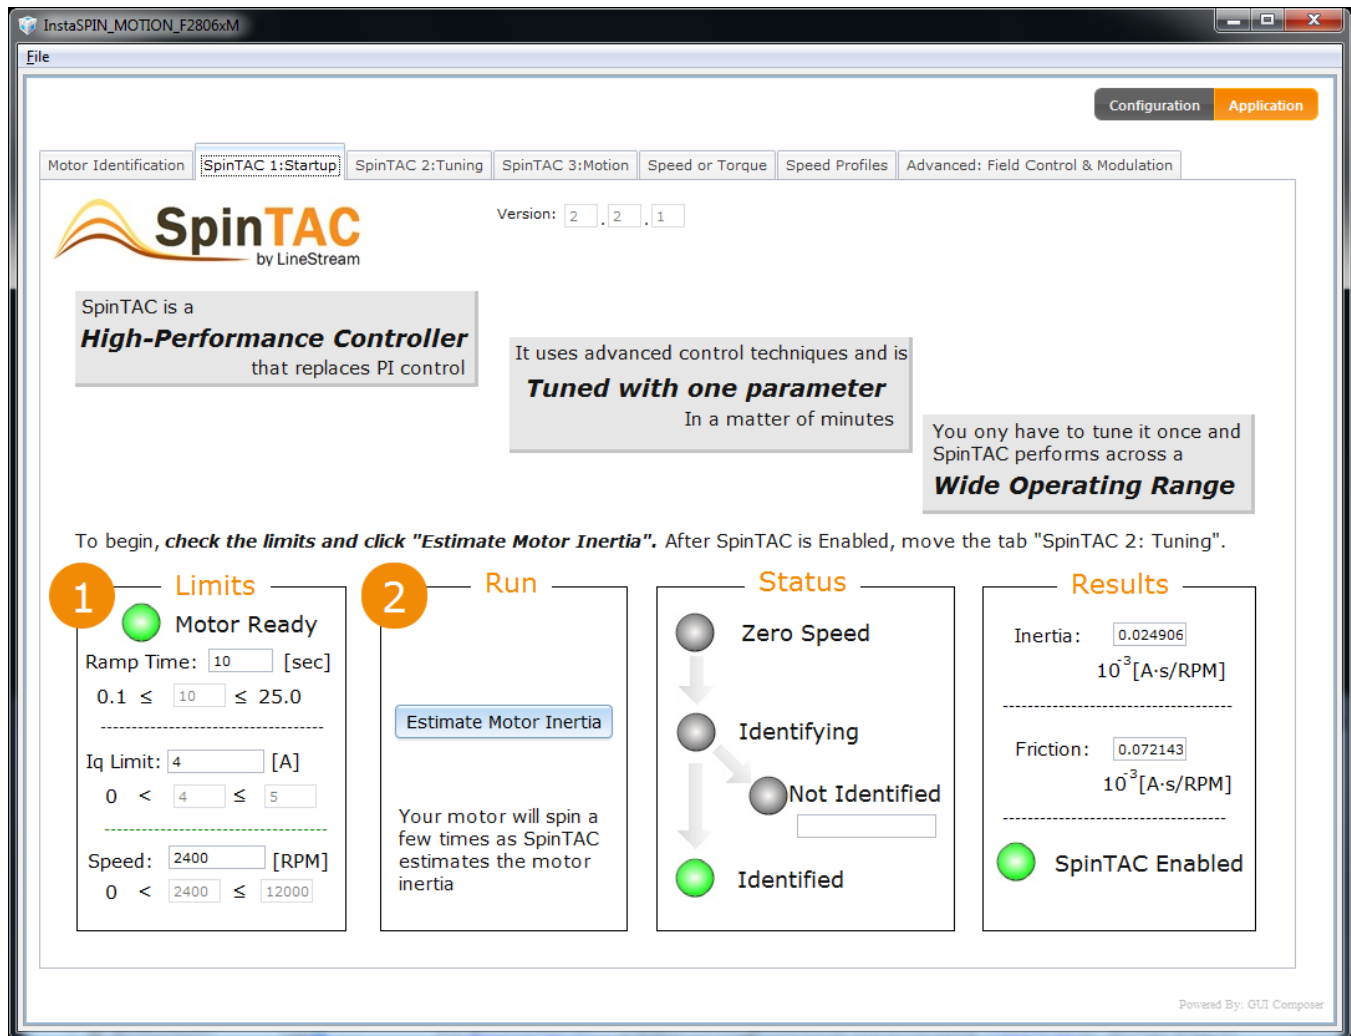

Figure 2-3. InstaSPIN-MOTION GUI Using SpinTAC 1:Startup Tab
Step 3. Identify system inertia (Figure 2-3).